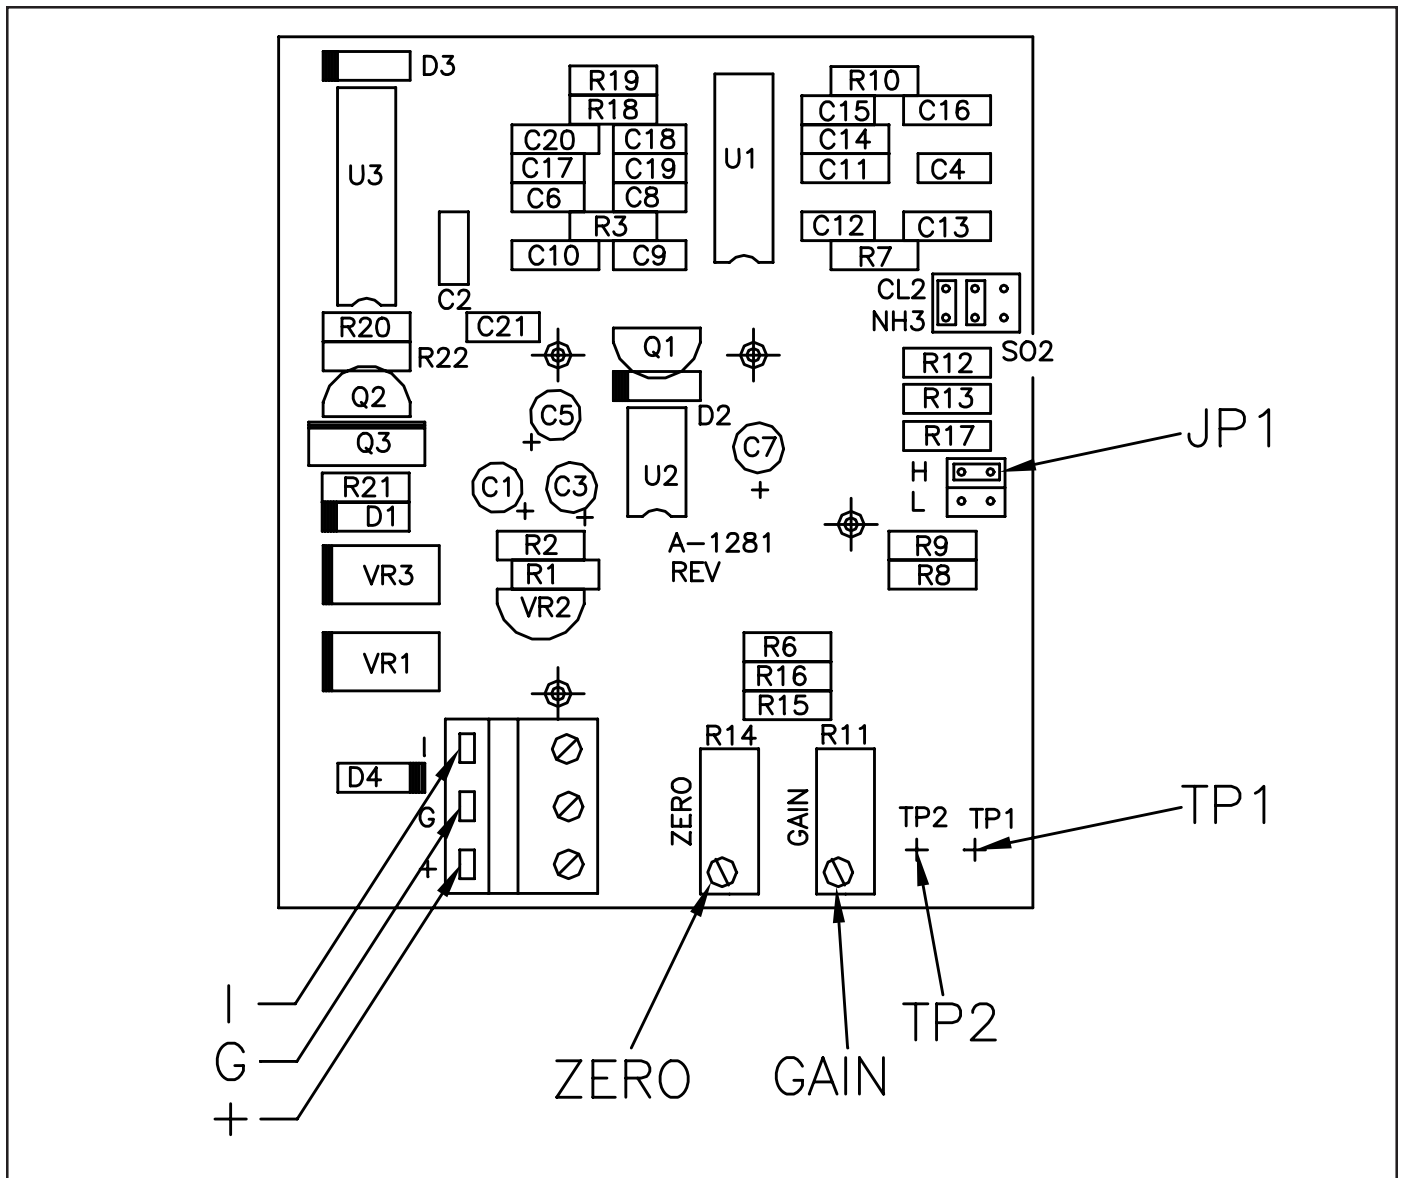

Figure 6 - Sensor Printed Circuit Board
After one (1) hour of operation in a gas free environment, check the voltage at the sensor module. This should read  $0.90 \pm 0.05$  Vdc between **TP1** and **TP2** located on the sensor printed circuit board (Refer to Figure 6). If voltage in this range is not obtained, adjust the **ZERO** potentiometer located on the sensor printed circuit board until this voltage is obtained. In addition, the first bar (green) of the bar graph indicator should be illuminated. If it is not illuminated or more than one bar is illuminated, readjust the **ZERO** potentiometer until only the first bar is illuminated. The gas detector and optional equipment, if supplied, are now set up for normal operation. The gain potentiometer should *never* need to be adjusted.
### 2.2.4 Sensor (Refer to Figure 6)
**CAUTION: THIS SENSOR MODULE HAS BEEN SET AT THE FACTORY USING AN ACCURATE GAS SUPPLY. CHANGING THE SETTINGS CAN MODIFY THE ACCURACY OF THE SYSTEM. ADJUSTMENT MAY BE NECESSARY AS THE SENSOR AGES. CHECK VOLTAGES EVERY THREE (3) MONTHS.**
- 3.3.2 Connect a voltmeter to the sensor module, the ground lead to test point 1 (TP-1) and the positive lead to test point 2 (TP-2) (refer to Figure 6). The voltmeter should read 0.9 volts  $\pm$ 0.05 volt.